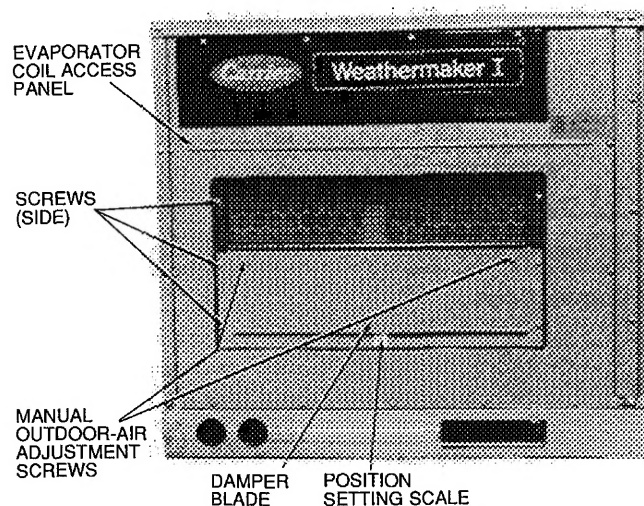
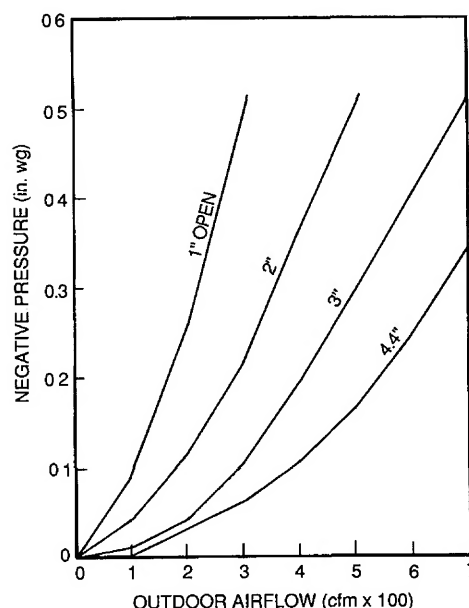
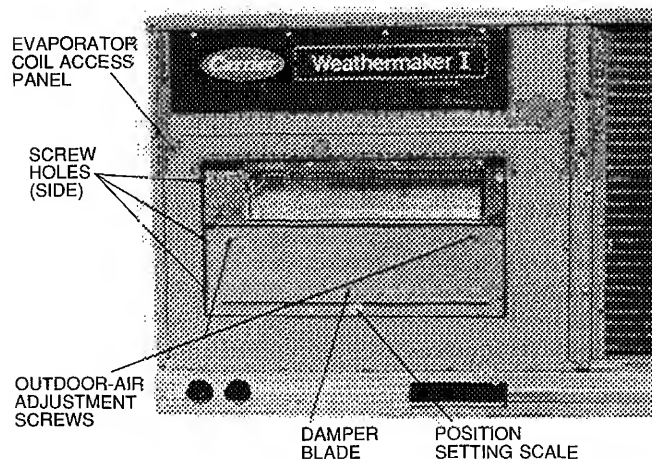

Fig. 12 — Damper Panel with Manual Outdoor-Air Damper Installed
Fig. 15 — Position Setting
Fig. 16 — Damper Panel with Two-Position Damper Installed
2. Remove and save evaporator coil access panel and screws. See Fig. 12.
8. Adjust minimum position setting of the damper blade by adjusting the manual outdoor air adjustment screws on the front of the damper blade. See Fig. 12. Slide blade vertically until it is in the appropriate position determined by Fig. 15. Tighten screws.
2. Remove and save evaporator coil access panel and screws. See Fig. 16.
9. Determine two-position damper setting by using Fig. 15. Set the damper panel position using the air adjustment screws. See Fig. 16. Tighten screws.